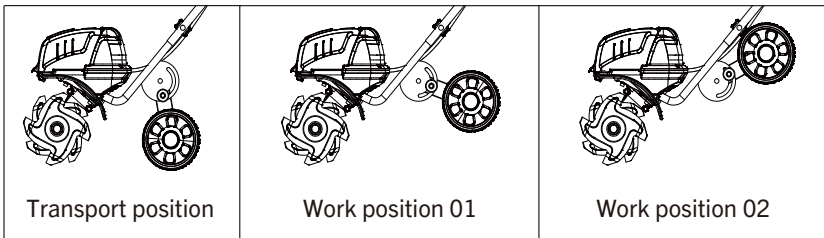

FIG. 5
1. The wheels can be adjusted to 3 different positions for better cultivating results (Fig. 5).
- Switch the product off. Ensure that the wheels are set to the transport position (see Fig. 5).